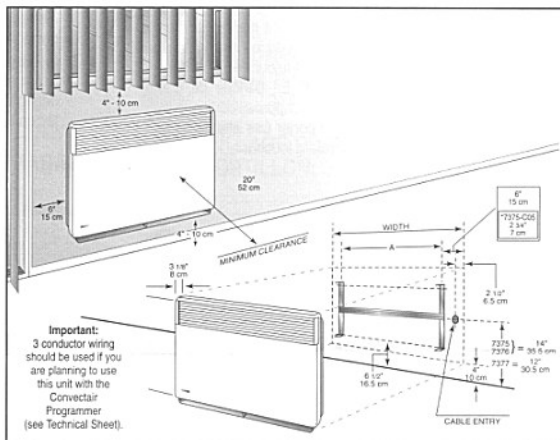

Figure 1
To avoid unnecessary length of cable behind unit, be sure that the supply cable comes out from the wall at the correct height (Figure 1). Should the unit be installed on an outside wall, it is suggested to take out the supply wire in the middle of the unit since it is hard to reinsert excess wiring in an outside wall.
- 3- Fasten mounting bracket **above** the line using 4 screws in the slots closest to the uprights. It is also possible to locate the unit according to a wall or furniture, using the values in Figure 1.